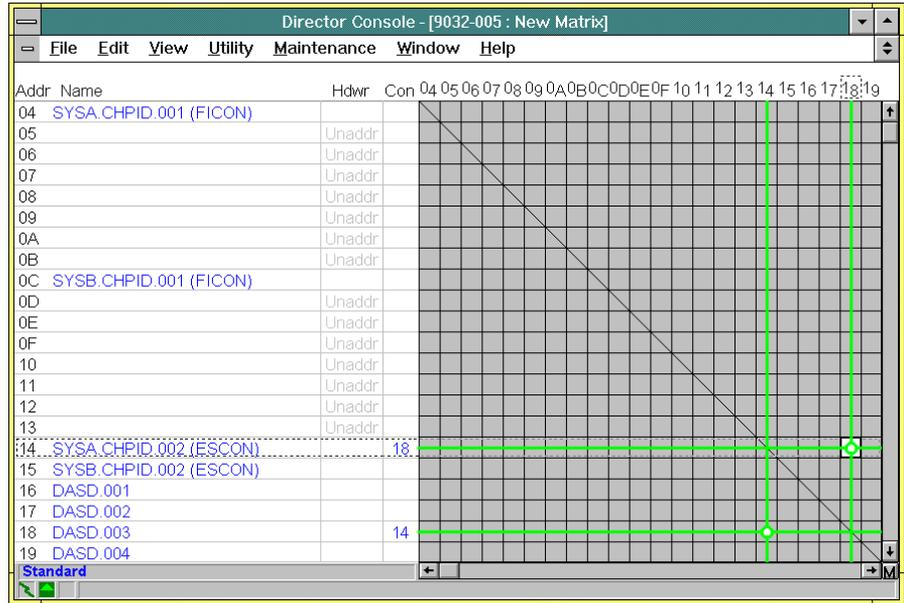

Figure 150. Matrix Window (FICON, Dedicate Attribute)
- Repeat step 6 for port addresses **0C**, **14**, **15**, **16**, **17**, **18**, and **19**. Example port address names appear in Figure 150. Unaddressable ports associated with FCV Port cards are typically not named.
Note: Prohibit and block attributes can also be set from the dialog box. The dedicated attribute (green bar) appears, and port addresses **14** and **18** appear in the *Con* column in blue characters. Any other address connections for these port addresses are not allowed. Figure 150 shows the *New Matrix* window with the dedicate attribute set.